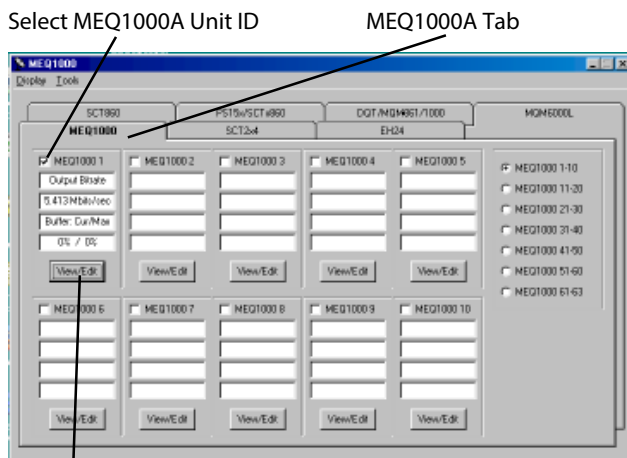

Figure 3
4) You will be presented with a screen similar to the one shown on **FIGURE 3**. Click on the MEQ1000A tab, and click on the box representing the MEQ1000A unit ID of the unit you are programming. In this example we selected Unit ID #1. Then click on the 'View Edit' button.